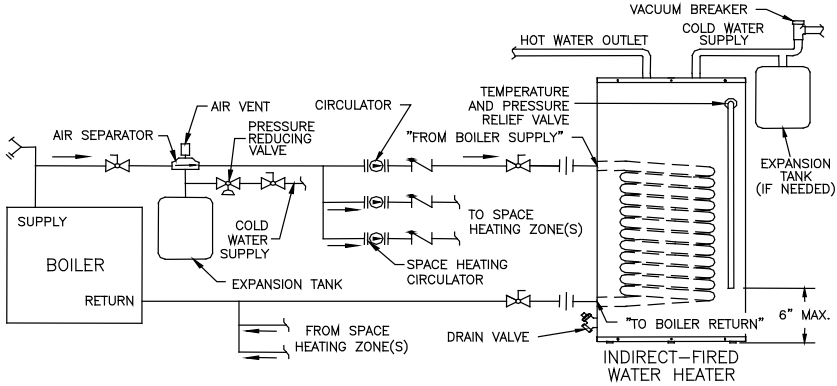

Fig. 3
2. For a space heating system that utilizes CIRCULATORS, refer to Figure 3. The indirect-fired water heater connection labeled "FROM BOILER SUPPLY" should be piped to the boiler supply piping. Mount the circulator making sure the flow arrow points toward the water heater. The use of shut-off valves and unions are recommended for future service convenience. The use of an air separator and vent is recommended to eliminate air in the system. Pipe and fittings between the boiler and indirect-fired water heater must be $\frac{3}{4}$ " diameter or larger.